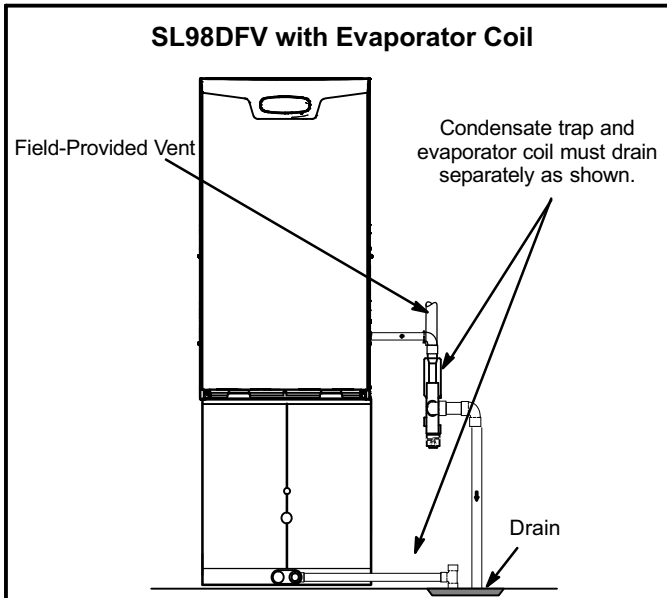

**FIGURE 34**
- 3 - Install drain trap using appropriate PVC fittings, glue all joints. Glue the provided drain trap as shown in figure 34. Route the condensate line to an open drain.